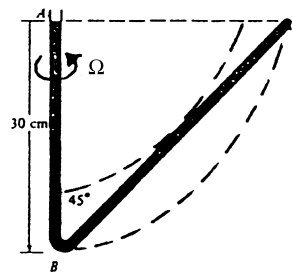

Fig. P2.157
**2.157** The  $45^\circ$  V-tube in Fig. P2.157 contains water and is open at A and closed at C. (a) For what rigid-body rotation rate will the pressure be equal at points B and C? (b) For the condition of part (a), at what point in leg BC will the pressure be a minimum?